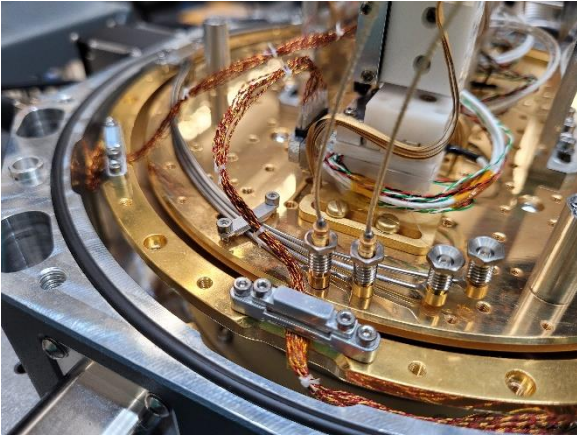

Figure 15: Example of wiring and use of thermal clamp with a Rook™ on an s200 system.
- 11.) Once optimal motion is confirmed, unscrew a selected thermal clamp and lead wires from the Rook™ to the MD25 connector underneath the clamp. See Figure 15 for an example.